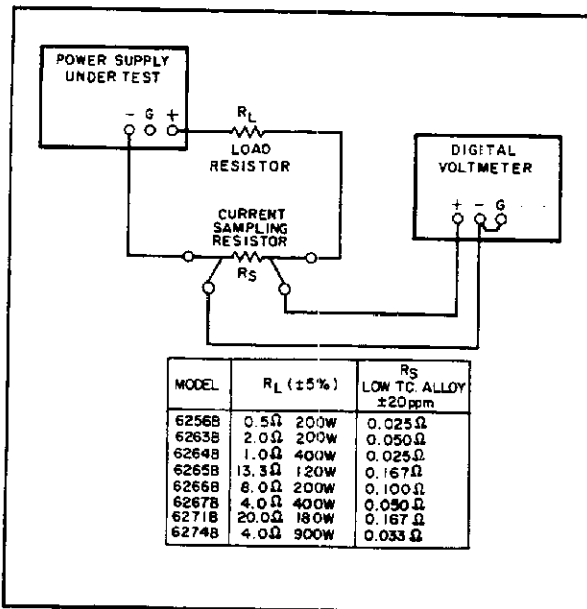

Figure 5-7. Constant-Current Load Regulation Test Setup
- a. Connect test setup shown in Figure 5-7.